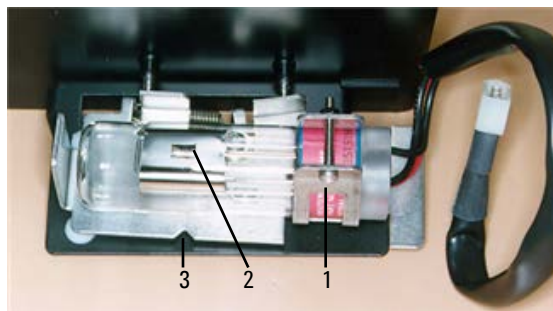

Figure 27. D₂ lamp alignment (top view)
- 7 Slide a new D₂ lamp through the clamp until the aperture (2) is aligned with the notch in the backing plate (3) as in Figure 27.